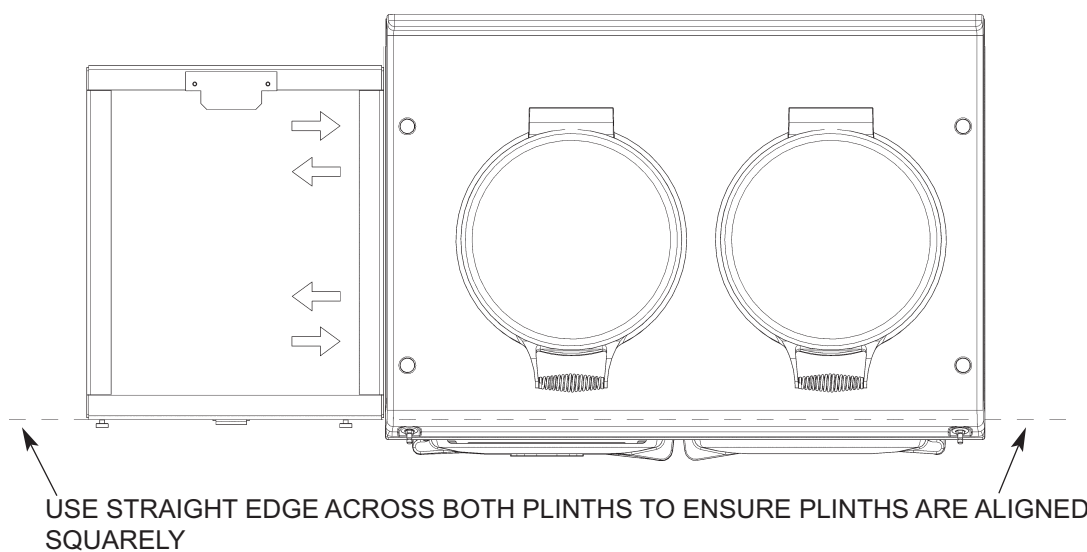

Fig. 15
4. Run a straight edge along the front of the AGA Dual Control plinth, to ensure the front face of both plinths sit squarely against the straight edge. (See Fig. 15)